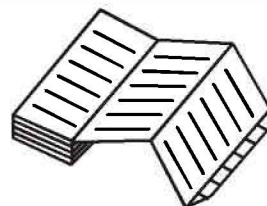

Fig. 3
3. Remove 2 screws fixing the battery fixture with a screw driver. (Fig. 3)
3. As shown in Fig. 3, insert the recording chart with the “begin” tab placed in the cartridge. Check that the printed side is facing out.